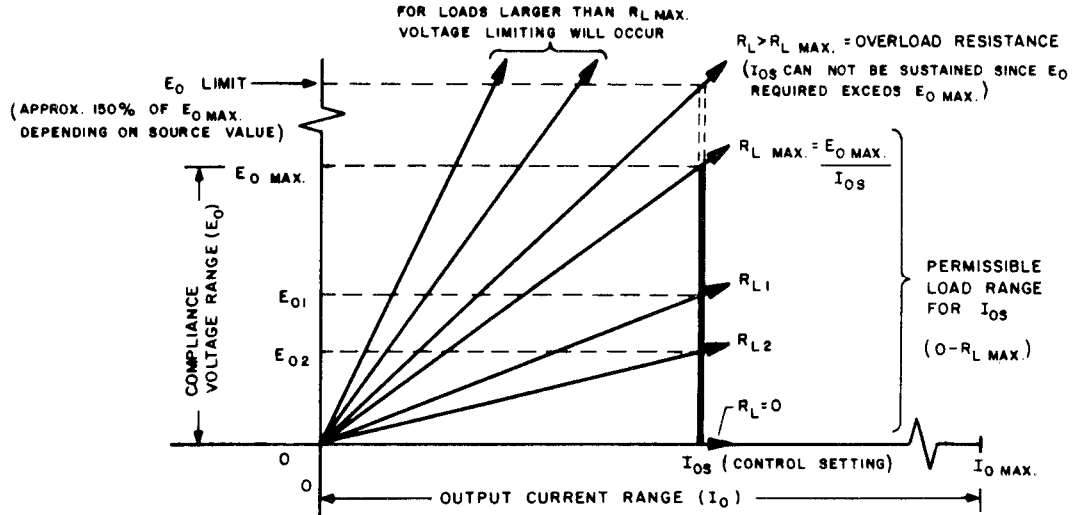

FIG. 3-1 LOAD RANGE FOR CURRENT STABILIZER
- 3-4 By means of the equation above (Eq. 1) one can quickly determine whether a specific CC model is suitable for delivering stabilized output current to a given load when the load requirements are defined. If the load resistance *exceeds* the value derived from the equation (Eq. 1), loss of stabilization results, since the CC Current Stabilizer can, under the conditions given by Eq. 1, no longer supply the necessary (higher) compliance voltage. For any load resistance *lower* than that derived from Eq. 1, the CC Current Stabilizer will adjust its compliance voltage to the appropriate value, while keeping the output current stabilized. The load range for any given output current (I_{OS} , set by the current control) is, therefore, from zero to $R_L \text{ max.}$, where " $R_L \text{ max.}$ " is derived from Eq. 1. An illustration of the above discussion is provided by FIG 3-1, while the output ratings of *all* CC models are listed in Table 3-1.